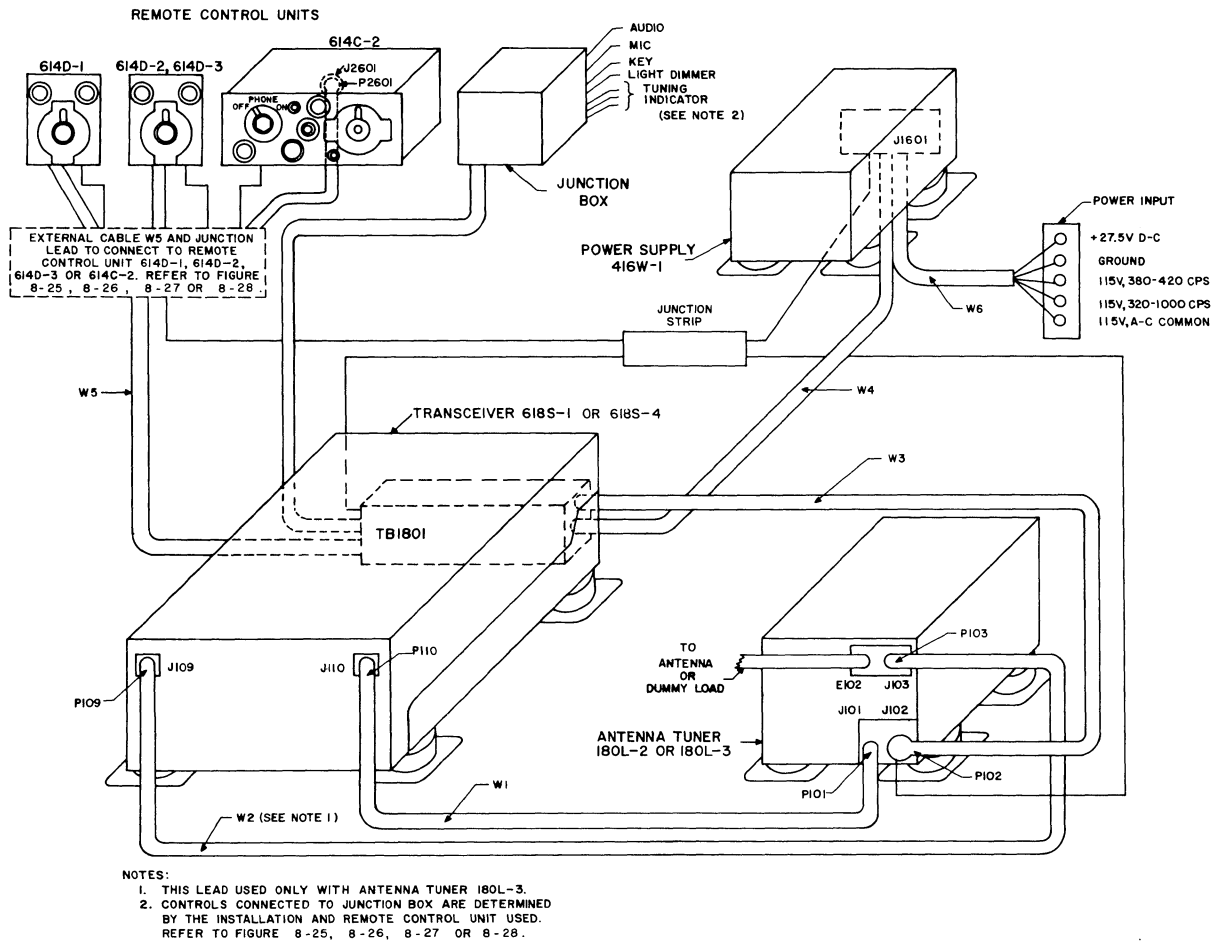

Figure 2-1. Transceiver 618S-1, System Cabling
A test bench should be provided to accommodate the components to be tested and the various test instruments. The cabling between components should simulate that of an actual aircraft and should be in accordance with figures 2-1 and 8-25 through 8-28, depending on which Remote Control Unit is used. Jacks should be included in the bench wiring for connecting the microphone and headset when needed. For aural monitoring, the monitor may be connected to terminal b of P2601/J2601 when Remote Control 614C-2 is used or to terminal 43 of TB1801 when Remote Control Units 614D-() are used. When monitoring with headphones connected to the PHONE jack on Transceiver 618S-1, the volume is not variable. The power source should be connected into the test
- f. Complete cabling to components as shown in figure 2-1 and 2-2 as required for the particular installation. (Refer to figures 8-25 through 8-28.)